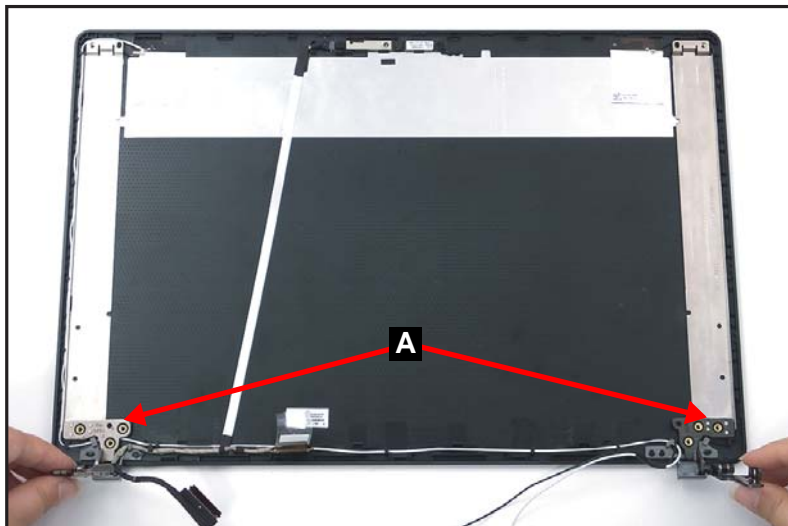

Figure 1-59. LCD Hinge Removal
2. Remove the LCD hinges (A) from the LCD cover (Figure 1-59).